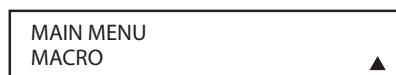

Figure 139.
2. The remote's **MAIN MENU** message will appear in the LCD and the **Set Button** will remain illuminated in red. Press the **▲ Navigation Button** twice so that **MACRO** appears on the bottom line of the LCD screen, as shown in **Figure 139**. Press the **Set Button** to enter the main macro menu branch.